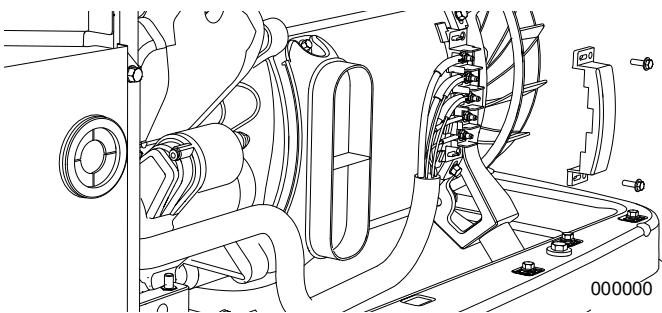
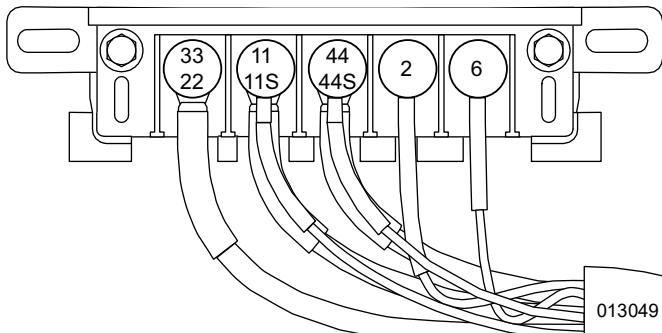

Figure 2-11. Stator Terminal Block Cover
Figure 2-12. Stator Terminal Block Wires
4. See Figure 2-11 and Figure 2-12. Remove the stator terminal block cover and identify the studs containing Wires 11S and 44S.